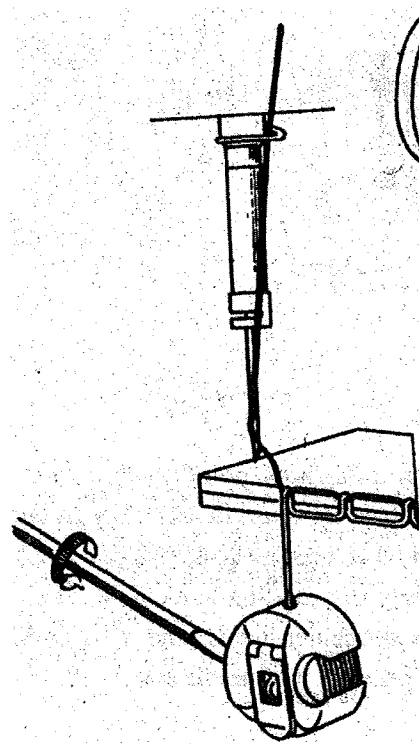

Fig. 29
- 1) If the needle thread tension is too high or bobbin thread tension is too low, turn the tension regulating thumb nut counterclockwise to decrease the needle thread tension or tighten the bobbin case tension regulating screw to increase the bobbin thread tension (see Fig. 29).